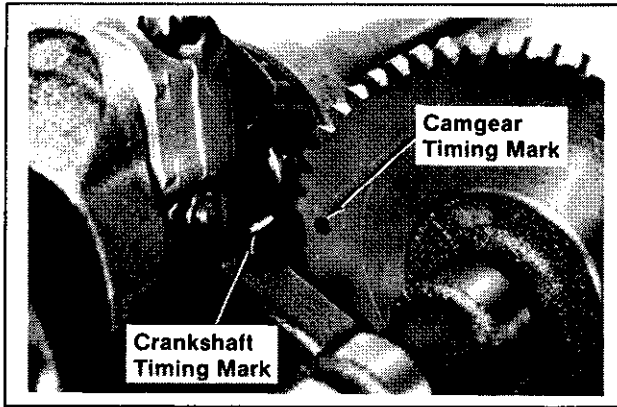

Figure 11-16. Aligning Crankshaft and Cam Gear Timing Marks.
3. Place the camshaft into the #1 side of crankcase. Make sure the timing mark on crankshaft aligns with the timing mark on cam gear. Refer to Figure 11-16.